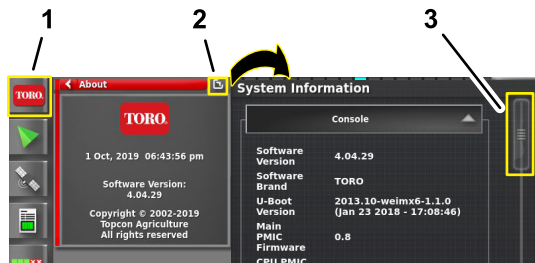

Figure 210
1. Press the SYSTEM INFORMATION icon, and then swipe the FULL SCREEN icon in the upper right corner of the system information window (Figure 210).